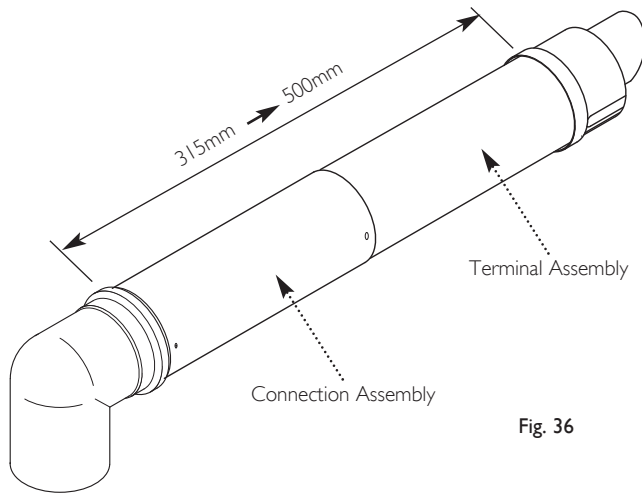

Fig. 36
2. The two sections can be adjusted to provide a length between 315mm and 500mm (Fig. 36) when measured from the flue elbow (there is 50mm engagement into the elbow).